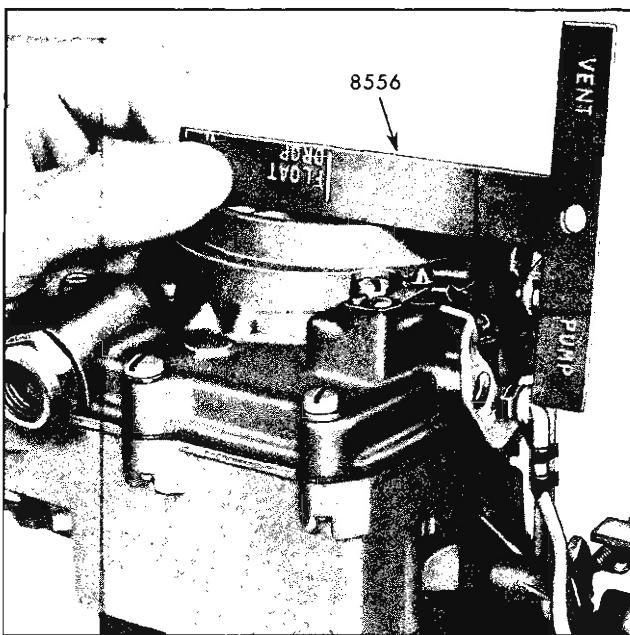

Fig. 6B-85 Pump Link Adjustment
cleaner mounting ring as shown in Fig. 6B-85. Then with throttle valves fully closed the top surface of the pump rod should just touch the end of the gauge. Measurement should be $1\frac{1}{4}'' \pm \frac{1}{32}''$. Bend pump link to adjust.
16. Install fast idle link and fast idle cam as an assembly and install fast idle lever on other end of fast idle link. Place fast idle lever on choke shaft with the tang facing outward and toward the pump lever. Install trip lever so that tang of trip lever is under tang of choke lever, and install retaining screw (Fig. 6B-86 and 6B-87).